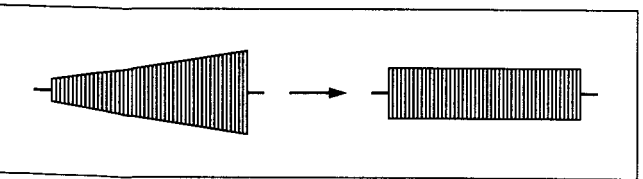

Fig. 3-2-5 PB FM
- (1) Connect an oscilloscope to TP106 and external trigger from TP111 (positive slope).
- (2) Playback the LP stairstep portion of the alignment tape at LP 2 x mode.
- (3) Set the automatic tracking control to the OFF by simultaneously pressing the TV PROG “-” and “+” buttons.
- (4) Adjust for maximum level of the playback FM waveform by depressing TV PROG “-” or “+” buttonson.
- (5) Adjust by pressing “M+D” or “M+E” buttons of the presetting unit for the FM waveform is flat as shown in Fig. 3-2-5.
- (6) Adjust for half level of the playback FM waveform from maximum level by depressing TV PROG “-” or “+” buttons.
- (7) Readjust by pressing “M+D” or “M+E” buttons of the presetting unit for the FM waveform is flat as shown in Fig. 3-2-5.
- (8) Record the colour bar signal by LP mode and play it back in the LP FWD slow mode.
- (9) Repeat steps (4) and (5).
- (10) Depress the STOP button.